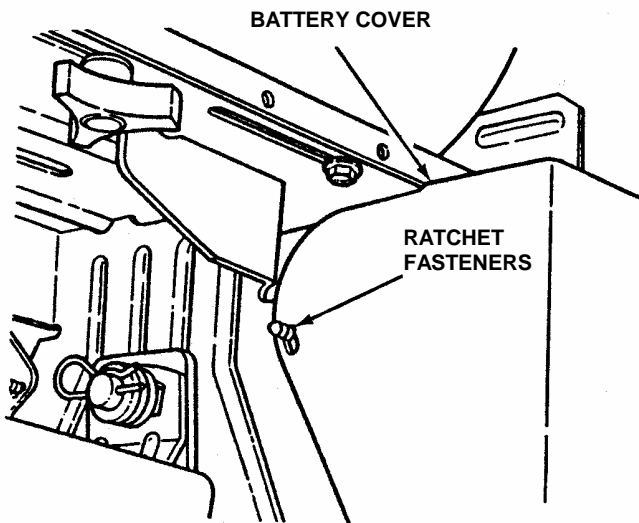

FIGURE 4.15
1. Carefully pull each side of battery cover away from ratchet fasteners and remove cover. See Figure 4.15.
5. Reinstall tall battery cover. See Figure 4.15.
12. Reinstall battery cover. See Figure 4.15.